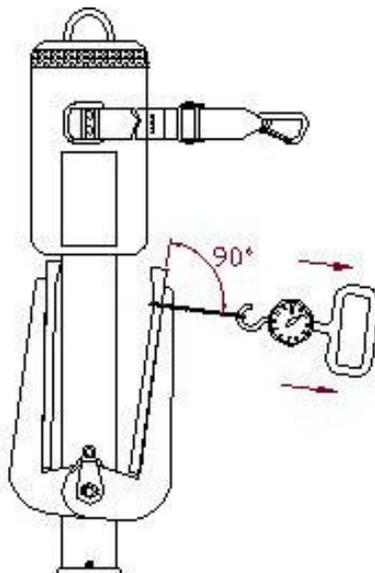

FIGURE 1
3. Check locking levers for engagement with the seat bolt and lock nut. Check locking lever bolt for tightness. See figure 1.
4. Check each seat for proper pull down tension (8 to 12 pounds) with a spring scale (see Figure 1). Adjust as needed using procedures below.
2. Adjust seat bolt until desired pull down tension is achieved for both seats, (8 to 12 lbs), using a spring scale (See Figure 1).